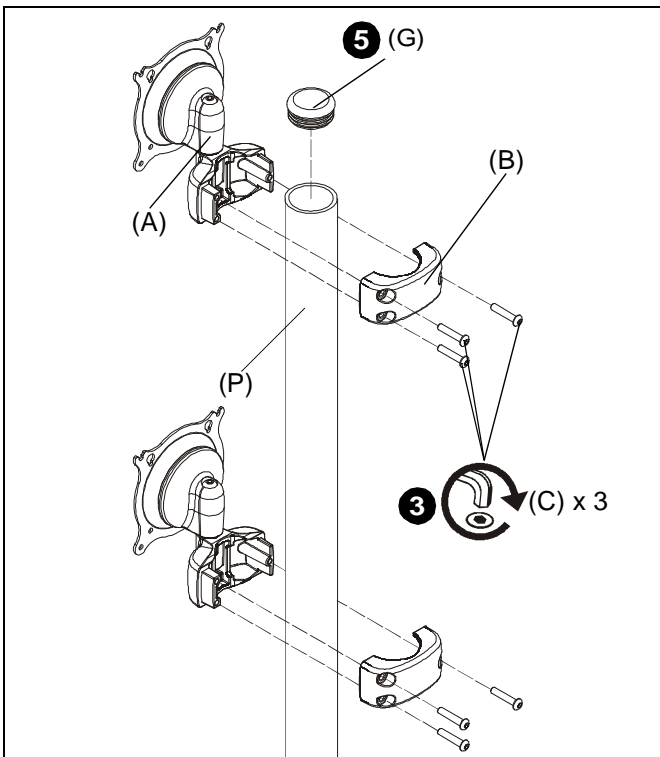

Figure 2
2. Place front pole clamps with Centris head (A) against pole (P) in approximate mounting location. (See Figure 2)
3. Place three 1/4-20 x 1 1/4" button head cap screws (C) into each rear pole clamp (C) and place against pole aligning with each front pole clamp (B). (See Figure 2)
4. Secure rear pole clamps (B) to front pole mounts (A) and pole by tightening six button head cap screws (C) using 5/32" hex key (F). (See Figure 2)
5. Add pipe cap (Q) to top of pole. (See Figure 2)